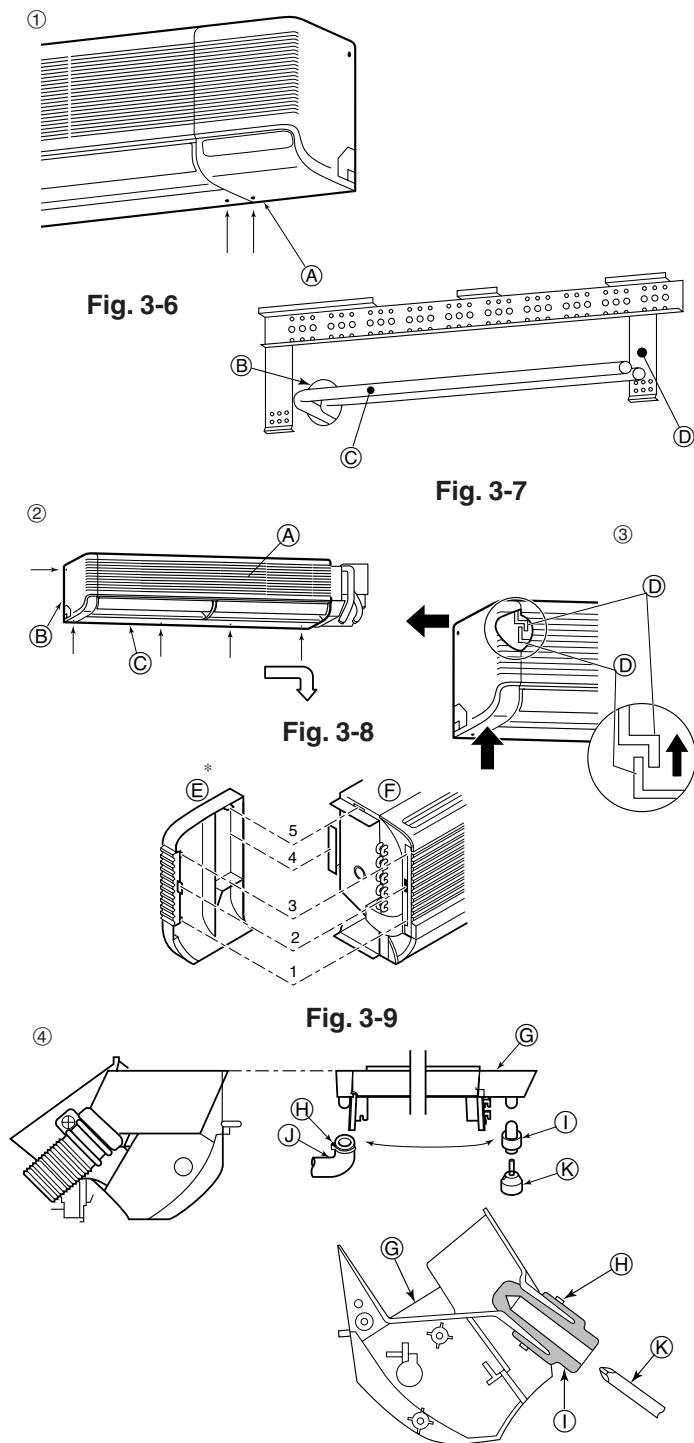

Fig. 3-10
- 4 The drain hose can be connected at two different positions. Use the most convenient position and, if necessary, exchange the position of the drain pan, rubber plug and the drain hose. (Fig. 3-10)